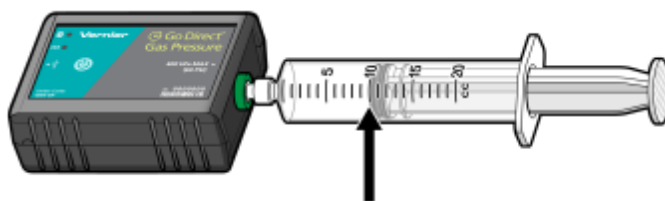

Figure 1.
4. With the 20 mL syringe disconnected from the Gas Pressure Sensor, move the piston of the syringe until the front edge of the inside black ring (indicated by the arrow in Figure 1) is positioned at the 10.0 mL mark.